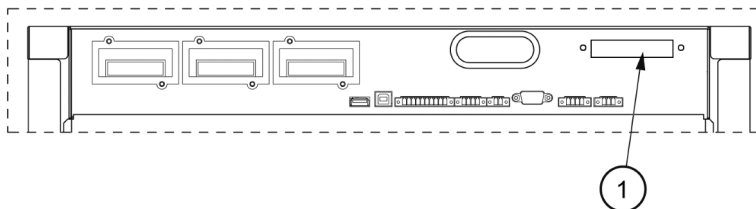

Figure 31. Communication interfaces
- A 12-pin terminal block for external parallel control signals is accessible on the right side of the communication interface, on the top section of the UPS (see Figure 31).